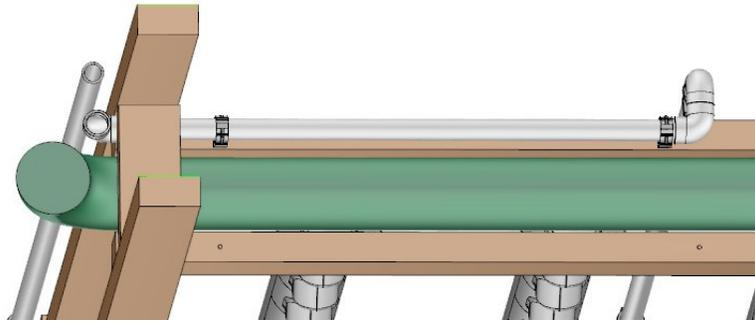

Figure 3 - View from underneath showing 1" Quick Latch on Rail
13. Then, fasten another one near where the vertical Post will be. The desired arrangement is shown in Figure 3.